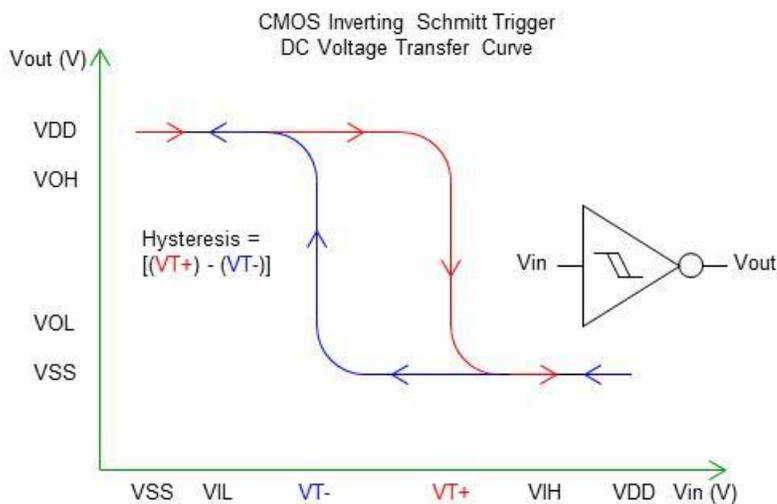

Figure 4: CMOS Inverting Schmitt Trigger DC Voltage Transfer Curve
**Figure 4.** Space applications of electronics result in exposure to charging of unconnected signals, metal surfaces and traces, etc. Without a sufficiently low impedance discharge path, this charging effect can be significant due to various space radiation and electric fields. Device charging can result in ESD damage if there is an uncontrolled discharge event. Including pull-up/pull-down resistors (e.g.  $\sim 100k\Omega$ ) would mitigate charging on the (un-driven) input nodes by draining off any static charge in a slow and controlled manner.